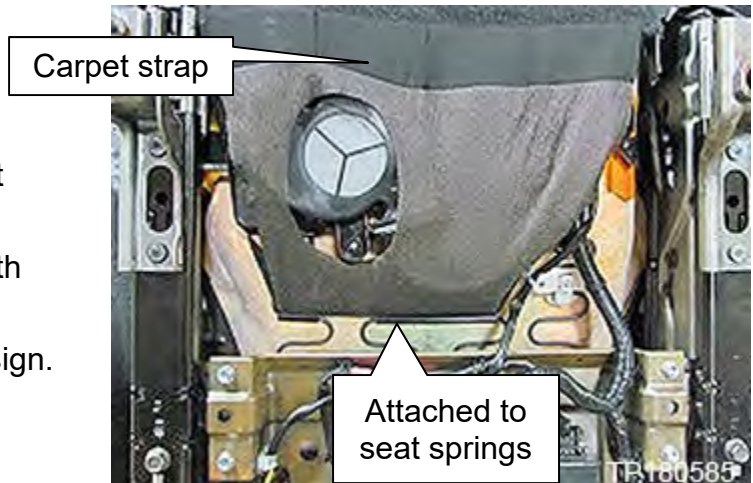

Figure 11
- Figure 11 shows old style carpet strap attachment J-Clip.